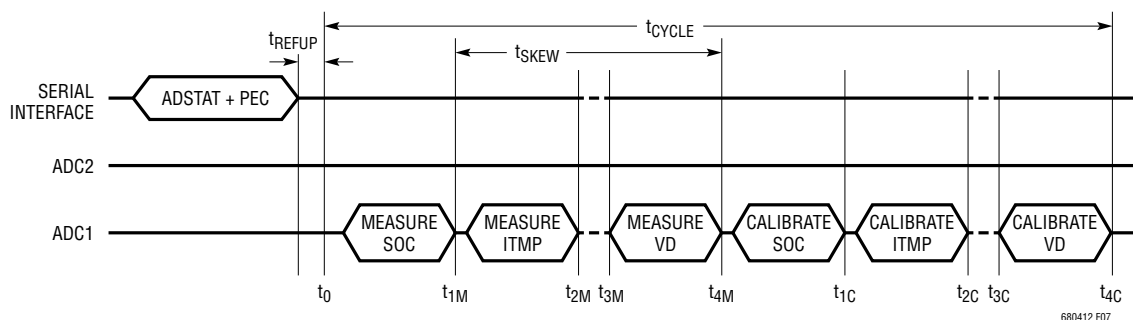

Figure 7. Timing for ADSTAT Command Measuring SOC, ITMP, VA, VD
The ADSTAT command is a diagnostic command that measures the following internal device parameters: sum of all cells (SOC), internal die temperature (ITMP), analog power supply (VA) and the digital power supply (VD). These parameters are described in the section below. All 6 ADC modes are available for these conversions. See the section on commands for the ADSTAT command format. Figure 7 illustrates the timing of the ADSTAT command measuring all 4 internal device parameters.